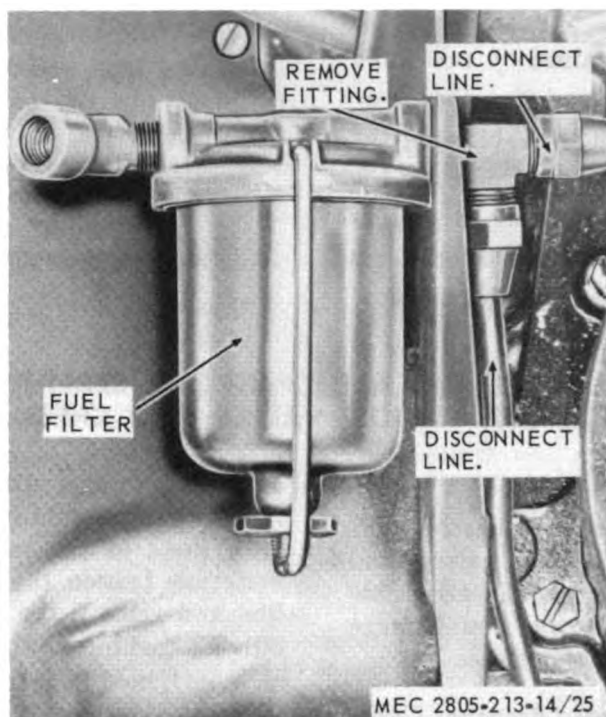

Figure 3-3. Fuel filter, removal and installation (Model AO42-KM).
a. *Removal* (Model AO42-KM). Refer to figure 3-3 and remove the fuel filter.
e. Installation. (Model AO42-KM). Refer to figure 3-3 and install the fuel filter.